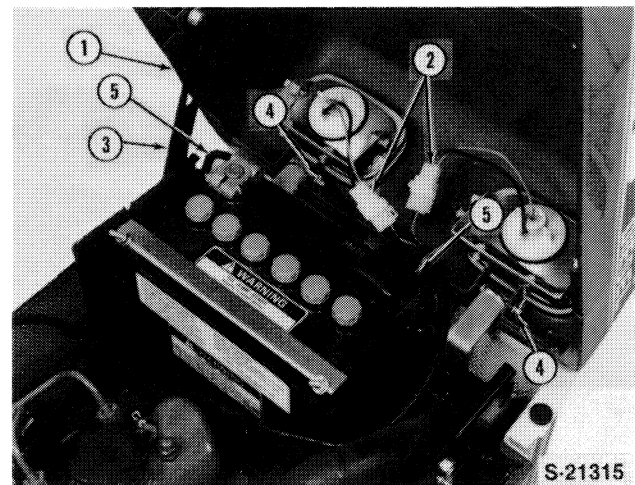
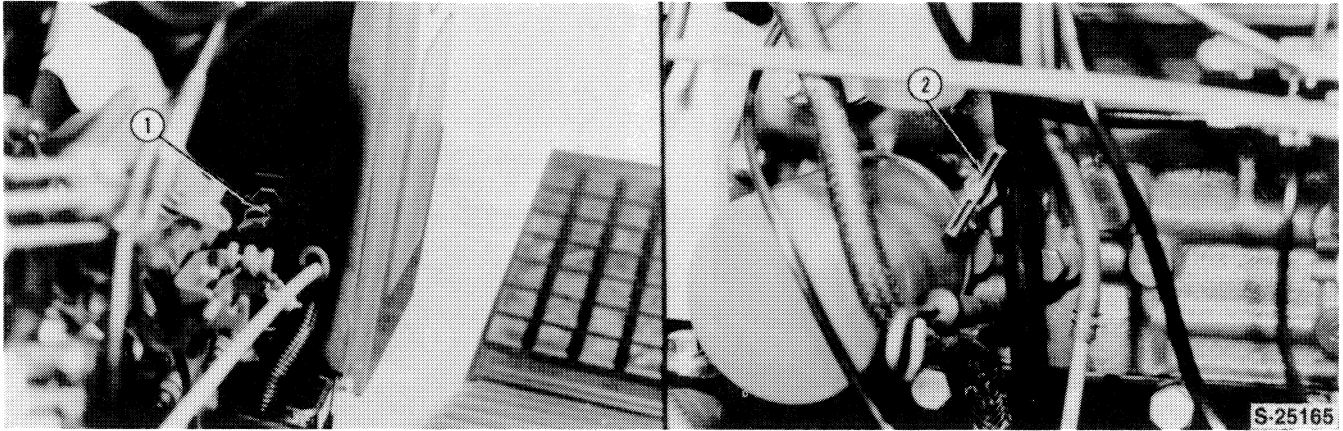

Figure 5
Figure 6
2. Disconnect the two headlight wiring connectors (2), Figure 5.
3. Remove the two hood pivot pins (4) and brace (3) and remove the hood from the tractor.
4. Drain the coolant from the radiator and engine block, Figure 6.
5. Disconnect the battery cables (5), Figure 5, from the battery terminal posts.